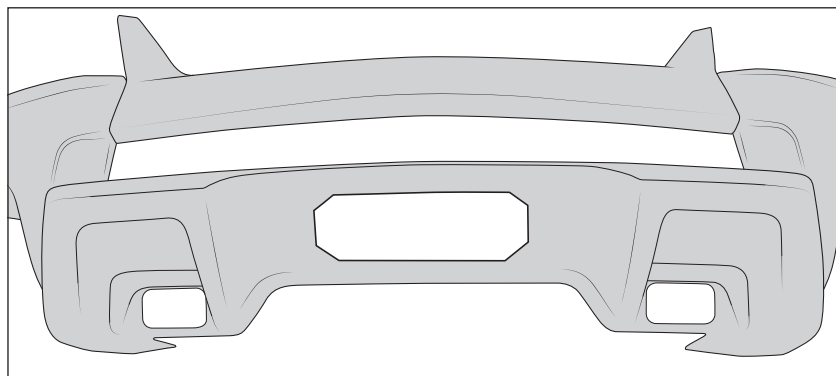

Figure 2
3. Align template (AEV30416AA) to the dimples on the fascia and cut hole for fairlead (fig. 2).